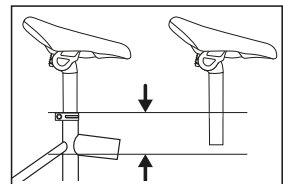

Fig. 3: Saddle height / minimum insertion depth
- ↳ Make sure that the saddle is set to the correct height. When adjusting the saddle height, maintain the minimum insertion depth of the seat post (see Fig. 3). A mark on the seat post indicates the minimum insertion depth. To establish the correct saddle height, sit on the saddle and place your right heel on the lower pedal. Your leg should be slightly bent. If your leg is more than slightly bent, the saddle must be raised. If you cannot reach the pedal, the saddle must be lowered. If you have any problems, contact your specialist dealer.